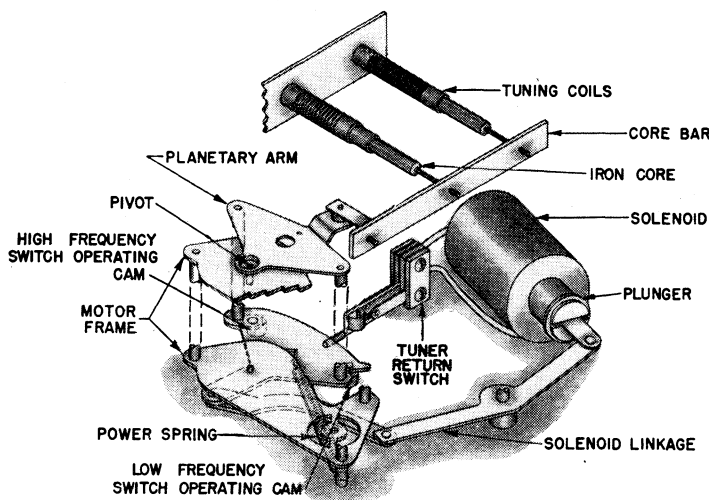

Fig. 2
Sweep and Return Cycle (See Fig. 2)
- B. Planetary Arm moves. (Fig. 2)
- A. The High Frequency Switch Operating Cam trips Tuner Return Switch. (Fig. 2)
- E. The Low Frequency Switch Operating Cam trips the Tuner Return Switch in the opposite direction. (Fig. 2)